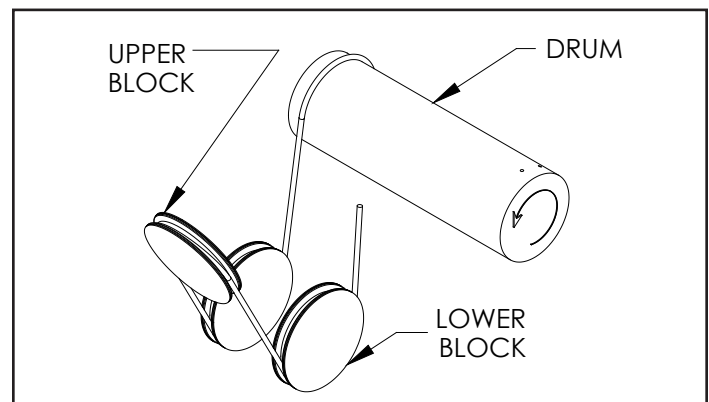

Figure 5-5 Reeving Diagram - 4 Part Single Reeved. (Note: Arrow on Drum Indicates Direction of Drum when Lowering.)
b) Before removing the old rope, refer to reeving diagrams, Figures 5-5 & 5-5a. To assist with re-reeving your hoist, refer to the appropriate reeving diagram and corresponding paragraph that describes the reeving procedure.
- (5) With outer lower block covers removed, thread the wire rope through the sheaves of the upper and lower block as shown in Figure 5-5.
- (6) Attach swaged rope end to the dead end anchor pin and fasten with either the new cotter pin provided with the rope ("B" & "C" Frame) or the retaining rings provided with the hoist ("D" Frame).
- (7) Replace the lower block sheave covers.
- (8) Lubricate cable per Paragraph 4-3.